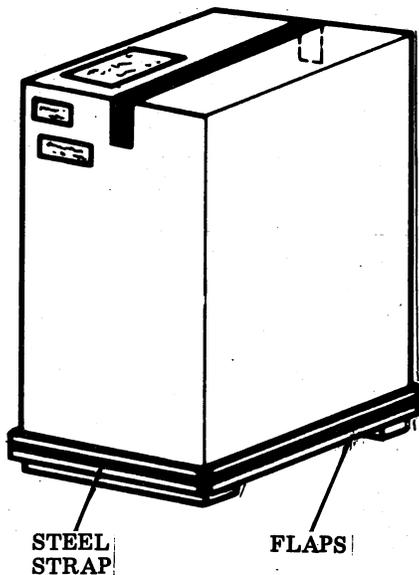

Fig. 12—Forms Access Printer Cabinet Carton
3.11 Remove steel strap from bottom of carton. Fold carton flaps outward (Fig. 12).